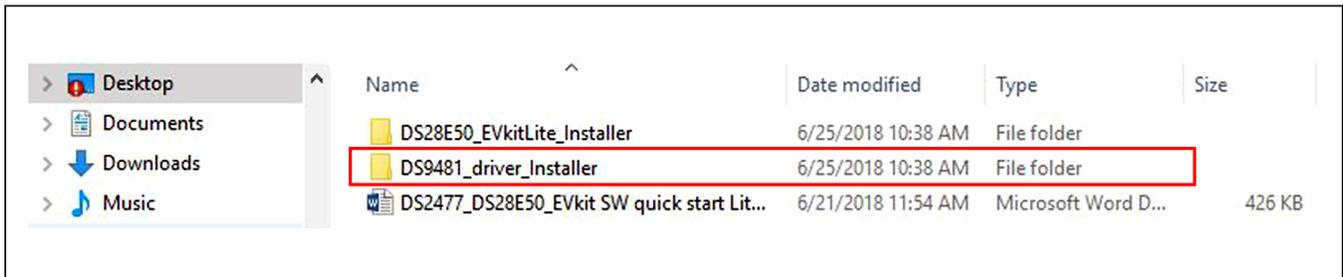

Figure 1. File Viewer with DS28E50 Installer and DS9481 Device Driver Installer
- a) Open folder **DS9481\_driver\_Installer** (Figure 1).